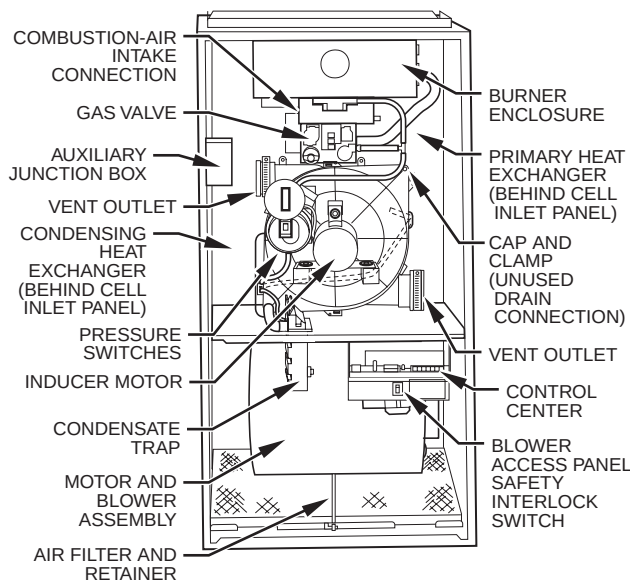

Fig. 1—Inducer Motor Assembly in Upflow ^{A01026}
4. Remove pressure switch tubes. (See Fig. 1.)